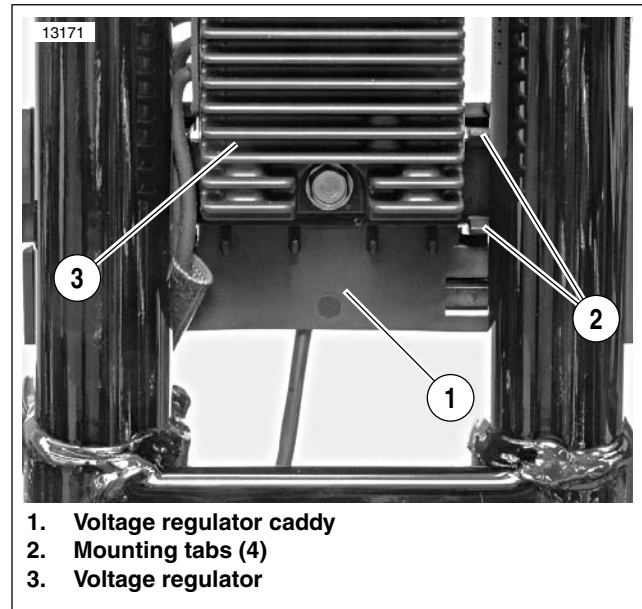
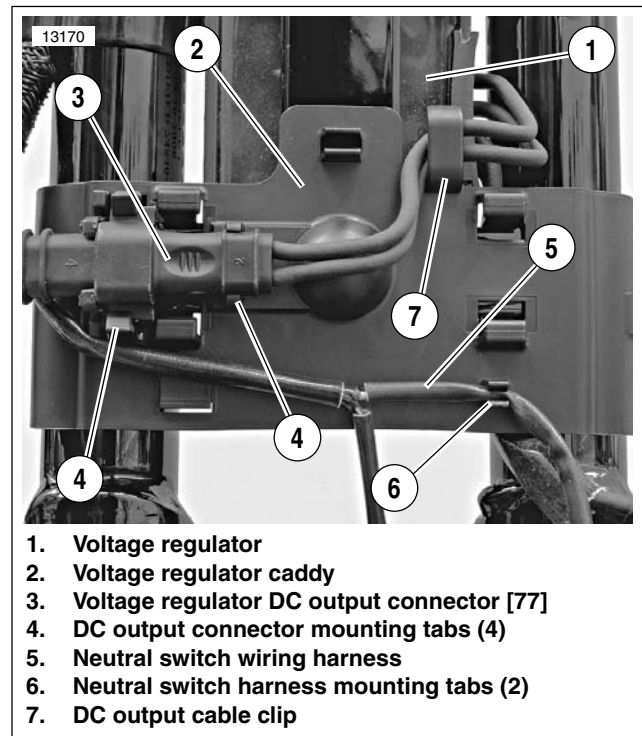

Figure 7-114. Voltage Regulator Caddy: Front View
Figure 7-115. Voltage Regulator Caddy: Rear View
See Figure 7-114. The voltage regulator caddy (1) is attached to the lower end of the voltage regulator mounting bracket by four tabs (2) located on the caddy.
1. See Figure 7-115. Remove DC output connector [77] (3) from mounting tabs (4) on caddy (2). Remove DC output cables from cable clip (7).
2. Remove neutral switch harness (5) from mounting tabs (6) on voltage regulator caddy.
3. Grasp caddy and gently pull straight away from frame downtubes. It may be necessary to bend four tabs (item 2, Figure 7-114.) back slightly to disengage caddy from voltage regulator bracket on frame.
2. See Figure 7-114. Line up four caddy mounting tabs (2) with bottom of voltage regulator (3) mounting bracket and press into place.
3. See Figure 7-115. Press neutral switch wiring harness (5) into tabs (6) on caddy (2).
4. Install voltage regulator DC output cables into cable clip (7) on caddy. Press voltage regulator DC output connector [77] (3) into mounting tabs (4) on caddy.